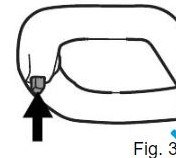

Fig. 3
1. To start the mixer, depress the On/Off trigger (Fig.3).
1. Start the mixer by depressing and holding the On/Off trigger (Fig.3)